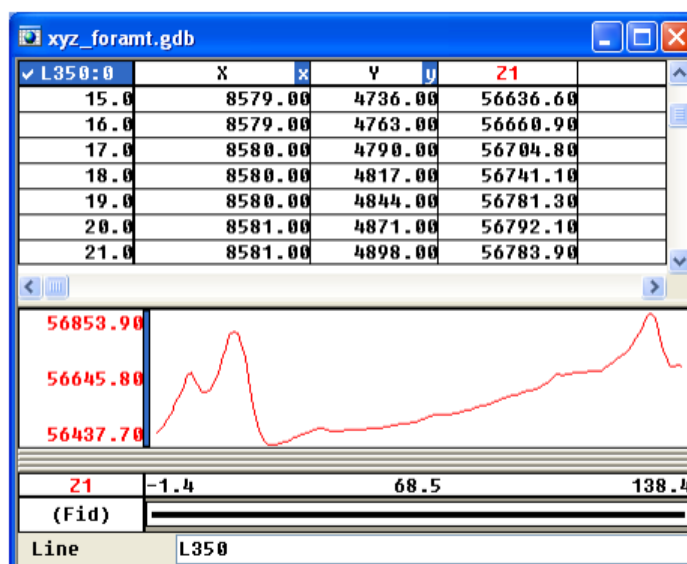

Figure 1.73. – Profile for the line 350:0
3. Click on **L350:0** from the list and display a profile for this line. The profile for **L350:0** is shown below, fig. 1.73: